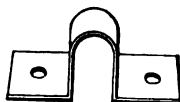

Fig. 37.—Saddle for Stranded Conductor.
*Brass and Leather Saddles.*—Brass saddles, as Fig. 37, are seldom admissible, except for screwing to dry wood. Leather is more safe, as it is not liable to chafe through the insulation.